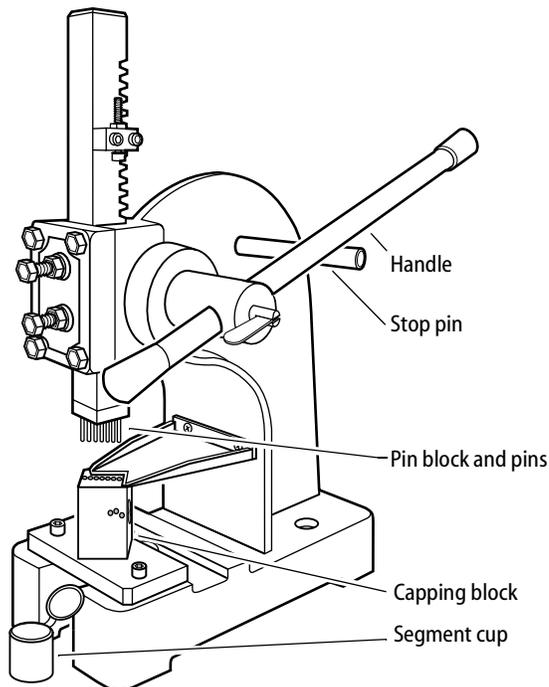

Figure 1 — CD517 Core Capping/Decapping Press
- 3 Rotate the handle up until it rests on the handle stop pin and the pin block and pins are at their highest point. See Figure 1.
- 1 Remove your fingers from the core block area and pull the handle firmly downward until it bottoms out, seating all of the core caps into the core. See Figure 1.
- 3 Put the segment cup under the capping block and inside the open hole at the front of the press so it will catch the old segments. See Figure 1.